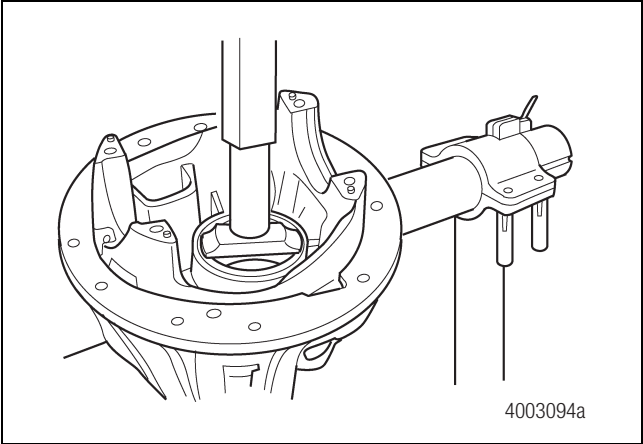

Figure 4.13
3. Use the correct puller and driver to remove the seal, and inner and outer bearing cups from the carrier housing. Save the shim that is under the inner bearing cup. Figure 4.13.